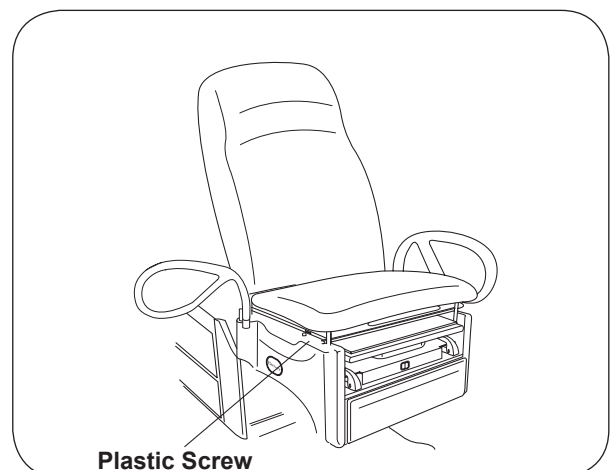

Figure 33. Location of White Plastic Stop Screw
2. Remove the white plastic screw. (Figure 33.)